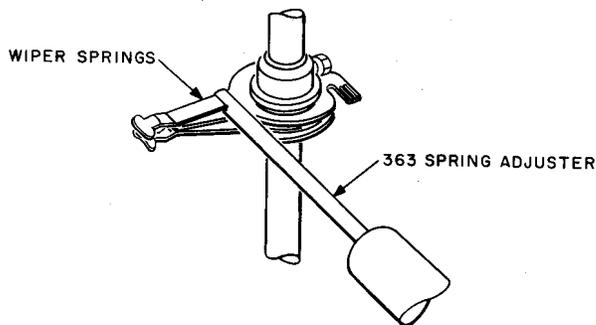

Fig. 10—Method of Adjusting for Clearance Between Wiper Springs
- (1) Where the wiper springs are not badly deformed, they may be reformed with the 363 spring adjuster to their proper form as described in (2) and (3) using, as a model, a bank wiper known to be in good condition. If the wiper springs have been badly deformed so a satisfactory adjustment cannot be obtained with the spring adjuster, replace the wiper assembly.
- (2) To adjust the distance between the wiper springs at the point where the straight portion forms into the hub end, proceed as follows. On springs that are not of the replaceable type, apply the spring adjuster to the spring as shown in Fig. 10. On springs of the replaceable type, apply the KS-7782 pliers to the same point.